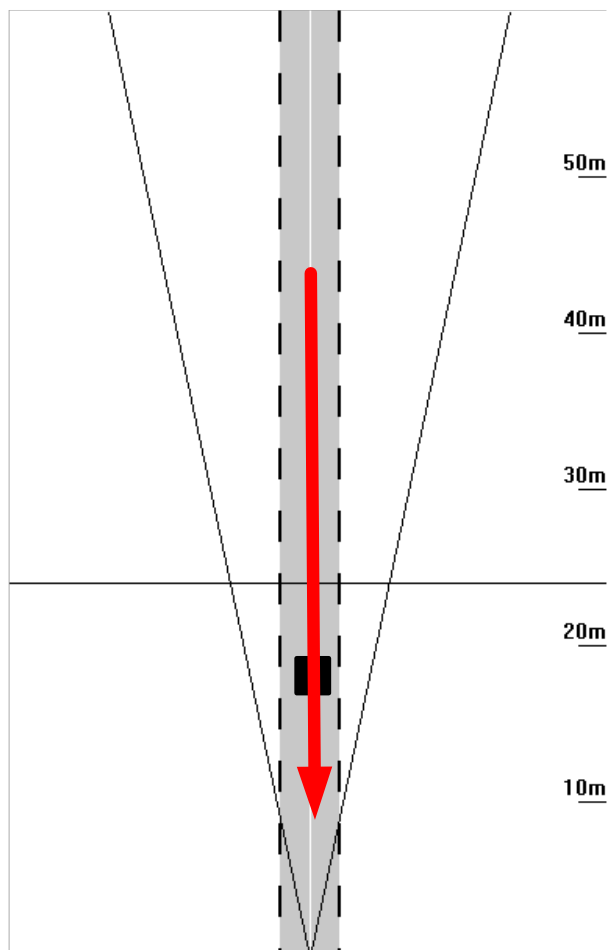

Figure 17 - Schematic diagram of vehicle track
- 3) Observe vehicle lane: In the track display interface on the left side of the debugging host computer, observe whether the lane of the passing vehicle is upright (start tracking from 40 meters away, the tracking track is in the set lane), as shown in Figure 17. If the lane is too short, the pitch angle of the radar is too large, and the radar needs to be raised upward. Fine tune the "OffsetAngle" angle so that the target's track is parallel to the lane line